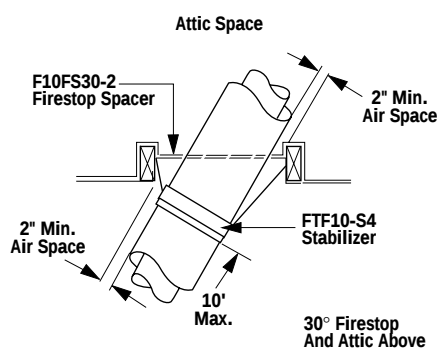
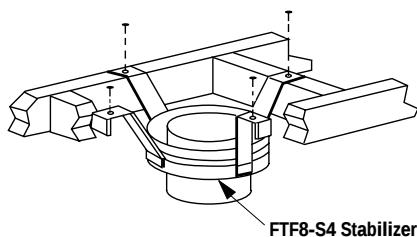

Figure 23
Figure 29
It may be necessary to assemble the chimney at 30° when passing through the floor or ceiling area. Use the F10FS30-2 firestop spacer as shown in Figures 23 and 24. Support the chimney at floor or ceiling penetration with a FTF10 stabilizer if distance of chimney below ceiling is 10' or more. Maintain 2" minimum air space to combustibles from chimney sections.
Install the Model FTF10-S4 stabilizer by fitting inner section down into respective section of proceeding flue pipe and locking outer stabilizer section into place over the outer chimney pipe. Position for proper clearance through framed opening and nail straps securely (under tension in "shear") into place on framing. Use 8d nails. Attach successive lengths of chimney pipe directly to stabilizer using same techniques as described in Step 4 (**Figure 29**).
Step 9. Security Chimneys locking bands, Model FLB, may be required if the chimney extends too high above the roof flashing. As a general rule, if the chimney extends more than 6' above the roof flashing, the use of locking bands is advisable to strengthen the chimney assembly. Align the locking band at the chimney joint. Locking bands wrap around pipe joints equally covering the joints of both pipe sections. Use the nut provided and TIGHTEN snugly. Do not overtighten as this might damage the chimney section (refer to **Figure 29**).
Step 1. Use Offset Chart to determine amount of horizontal offset (A) and height (B) for various chimney section assemblies.
Step 3. Use Elevation Chart as job estimator only. Add necessary firestop spacers and stabilizers as required. Firestop spacers must be used as shown in **Figures 23 and 24** and stabilizers as shown in **Figure 29**.